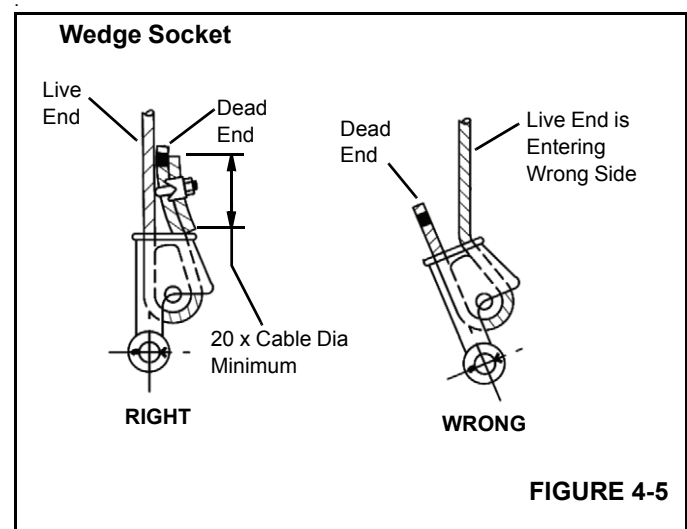

FIGURE 4-5
3. Make sure the live-end (Figure 4-5) of the rope is directly in line with the ears of the socket and the direction of pull to which the rope will be subjected. If the rope is loaded into the socket incorrectly, under a load the rope will bend as it leaves the socket, and the edge of the socket will wear into the rope causing damage to the rope and eventual failure.